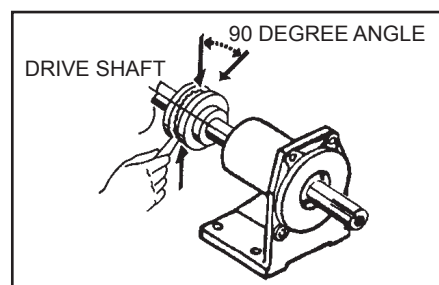

FIGURE 6
8. To avoid angular misalignment, insert a measuring device (taper gauge or feeler gauge) between the coupling faces at four locations 90 degrees apart (see arrows in figure 6) and measure the gap at each of the four locations. For proper alignment all four measurements should be equal. Re-shimming may be required to achieve this alignment.